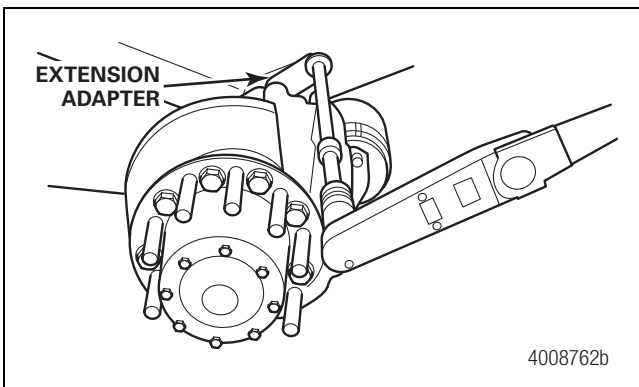

Figure 5.4
2. Align the caliper carrier bolt holes. Assemble the caliper to the torque plate using the carrier bolts and washers. Using a 30 mm socket wrench (or extension adapter MST225 5001 if available), tighten the carrier bolts to 450 lb-ft (610 N•m). Refer to Section 8 and Section 10. Figure 5.4.